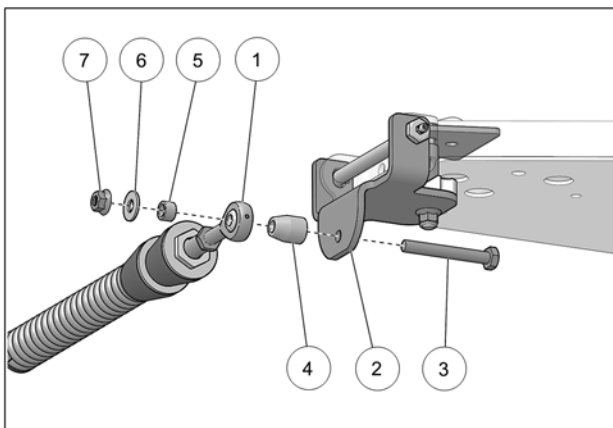

Fig. 11
- Attach stabilizing rod (1) to anchor bracket (2), using bolt (3), long spacer bushing (4), short spacer bushing (5), flat washer (6) and nut (7). Torque to 70 N•m [52 lb•ft]. See Fig. 11